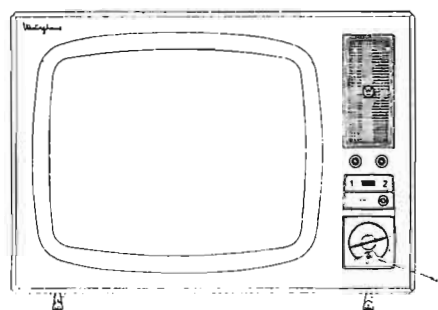

Fig. 4
3. - MODELLO WESTINGHOUSE 1000T19 BONDED (fig. 4, 5 e 6)